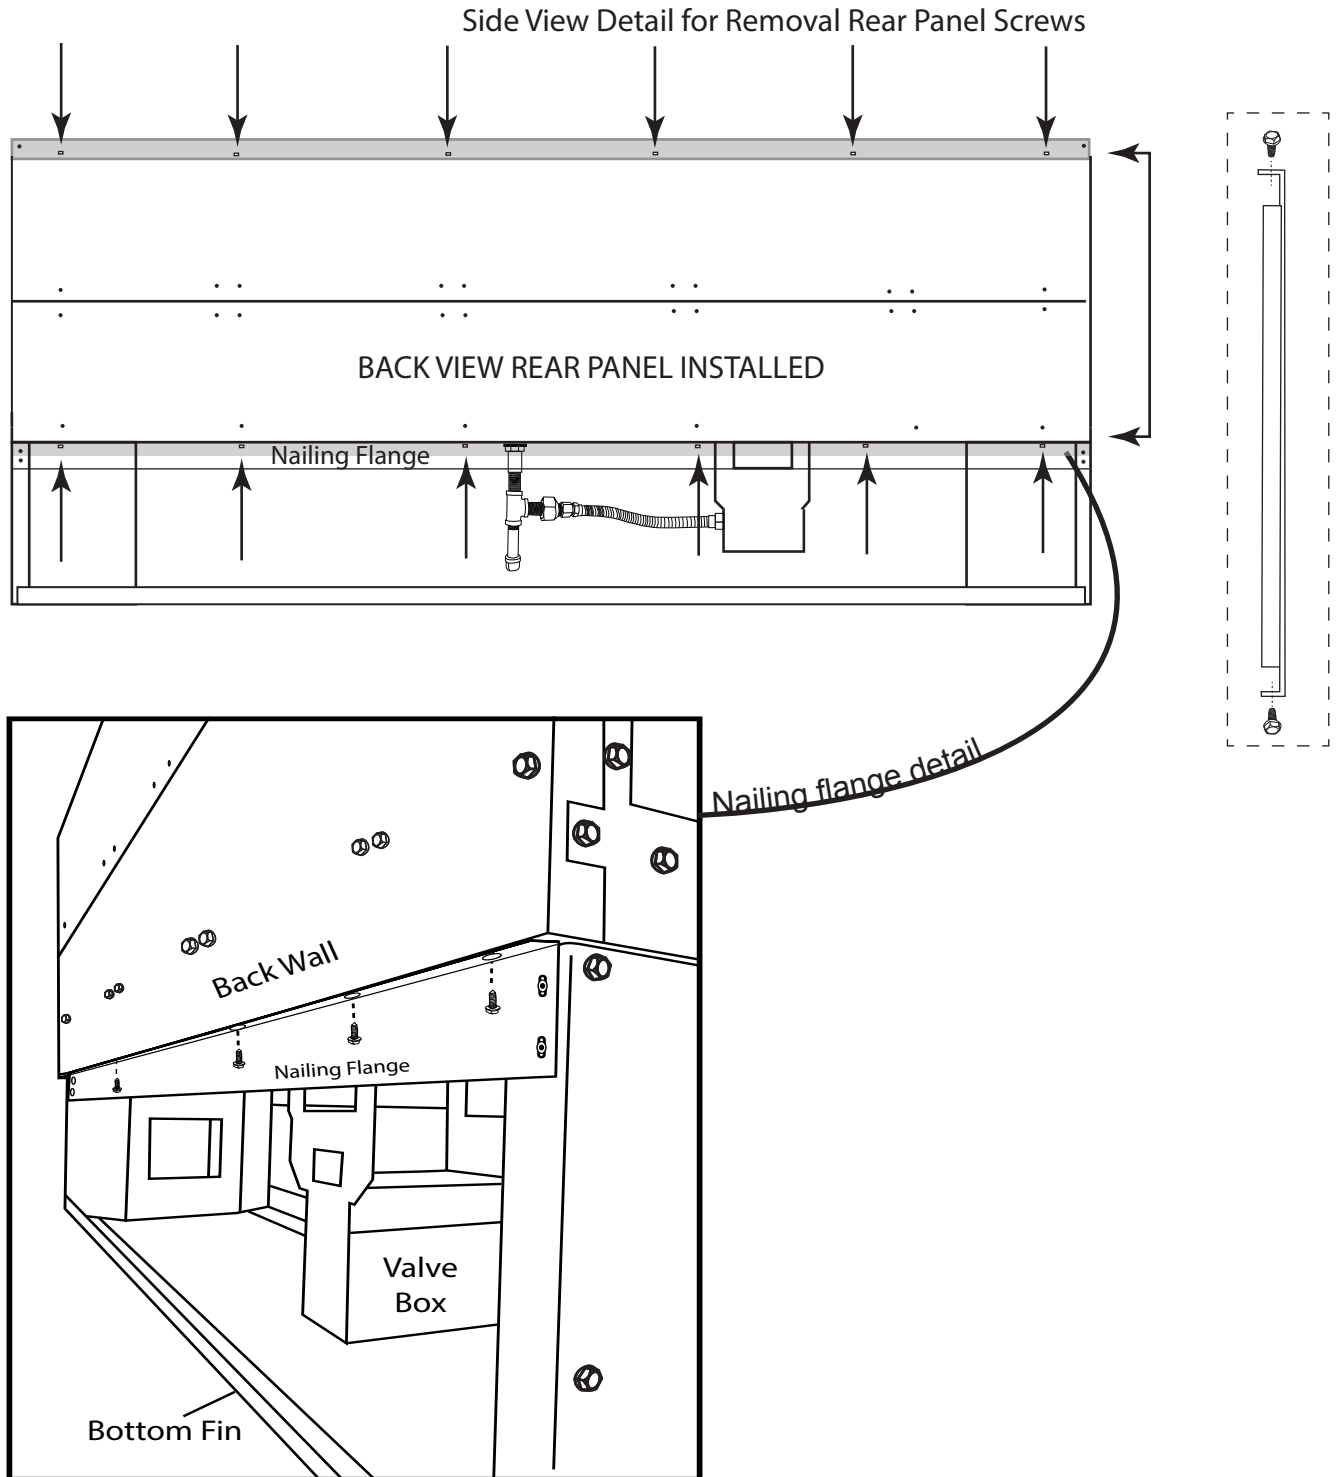

Fig. 2 Removing back wall to convert to see-through model.
**Step 1: REMOVING BACK REAR PANEL:** The outer perimeter area of the back wall has several 1/4" hex head screws that must be removed from top and bottom of fireplace (See the shaded area in Fig. 2). Only remove the top and bottom screws on the rear panel. The nailing flange will remain in place at the bottom however the nailing flange on top must be re-installed. The back wall panel will remain in one piece. **CAUTION:** Watch for sharp edges. Carefully remove the back wall. **Note:** The numbers of screws to remove will vary with each fireplace model. The back panel will not be used again. Discard back panel and replace the screws previously removed.